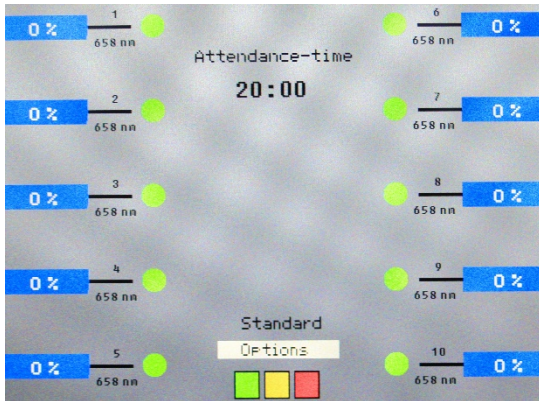

Figure 18: Main overview screen with highlighted “Options”
- The entrance to the room should be marked with a laser warning sign (Fig. 18) according to ISO 7010-W004. An appropriate laser warning sign sticker is supplied with the package.
To enter the LASERNEEDLE Touch device menu choose the “Options” section on the main overview screen (Fig. 18). Use the arrow keys to highlight the “Options” section and the confirmation button to enter.
1. In the main overview screen (Fig. 18) set all treatment parameters manually according to the desired treatment plan. Do not forget to confirm by touching the confirmation button.